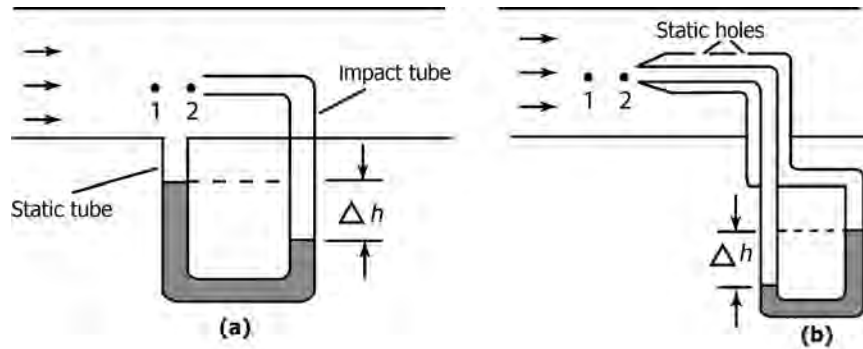

FIGURE 4.17 Pitot tube arrangements for flow measurement.
- Pitot tube is used to measure the local velocity at a given point in the flow stream and not the average velocity in the pipe or conduit. A diagram of pitot tube is shown in Figure 4.17.
- The fluid flows into the opening at point 2, pressure builds up and then remains stationary at this point, called the *stagnation point*. The difference in the stagnation pressure at point 2 and the static pressure measured by the static tube represents the pressure rise associated with deceleration of the fluid. The manometer measures this small pressure rise (Δh in Figure 4.17). Δp is obtained from the manometer reading from the equation